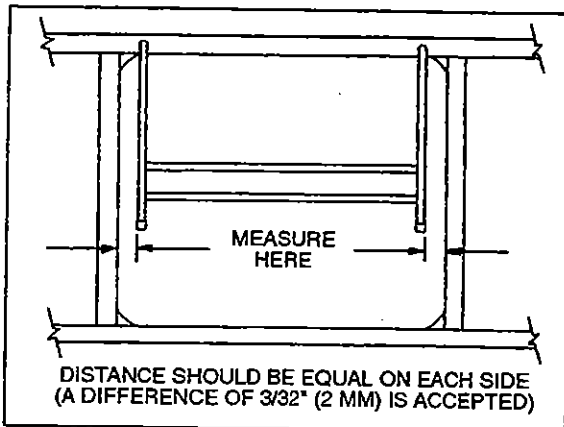

Figure 20
3. Measure distance between a pantograph arm end and the structure. Repeat procedure for the other arm. The distance on each side should be equal as the pantograph arm assembly must be centered in baggage compartment opening. If not, bend the appropriate pantograph arm end until desired measure is obtained. A difference of  $3/32$ " (2 mm) between both sides is accepted. Refer to figure 20.